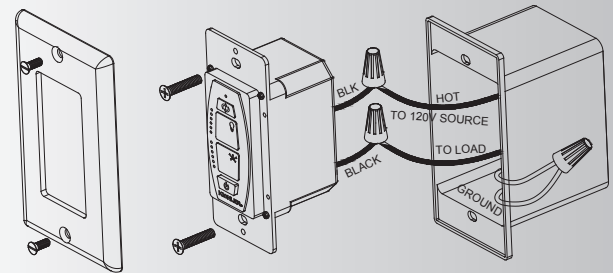

Fig. 25
Step 3. Connect one black wire of wall control to the "hot" wire (house source). Securely connect wires with wire connectors supplied. (Fig. 25)